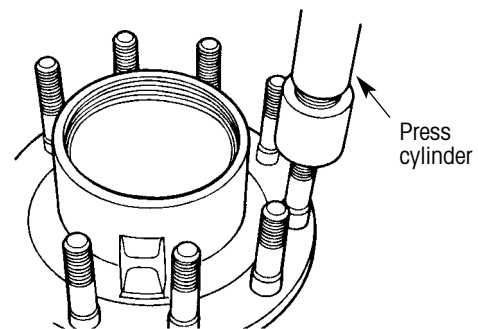

Figure 19. Removing a wheel stud
3. Use the press cylinder to push on the threaded end of the stud and force it out of the hub (figure 19).